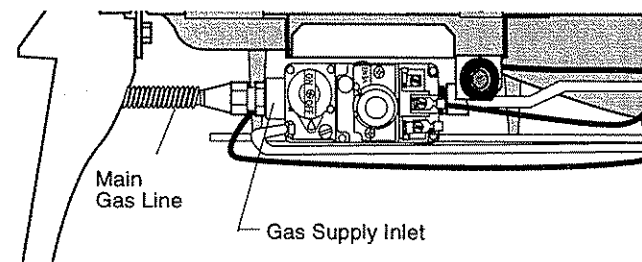

Figure 34. The gas supply line connects to the inlet to the left of the control valve.
1. Connect the main Gas Supply to the control valve inlet. Fig.34. A 1/8-inch N.P.T. plugged tapping, accessible for test gauge connection, must be installed on the inlet gas connection.